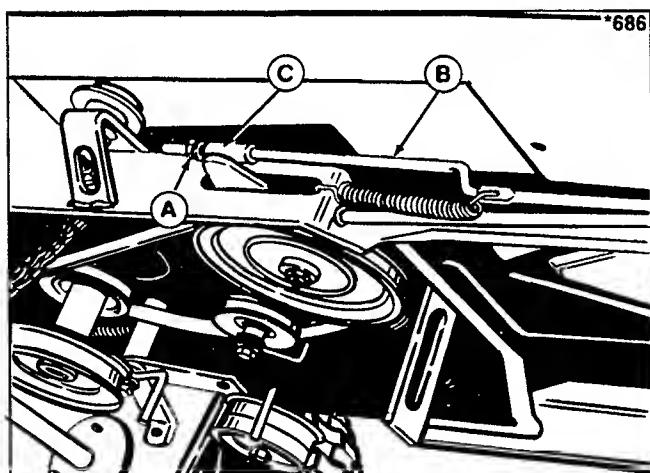

Figure 16. Clutch Adjustment
- Set the nut (A, figure 16) on the clutch rod (B) so there is 1/4 to 5/16 inch (6.3 to 7.9 mm) clearance between nut (A) and rod guide (C).